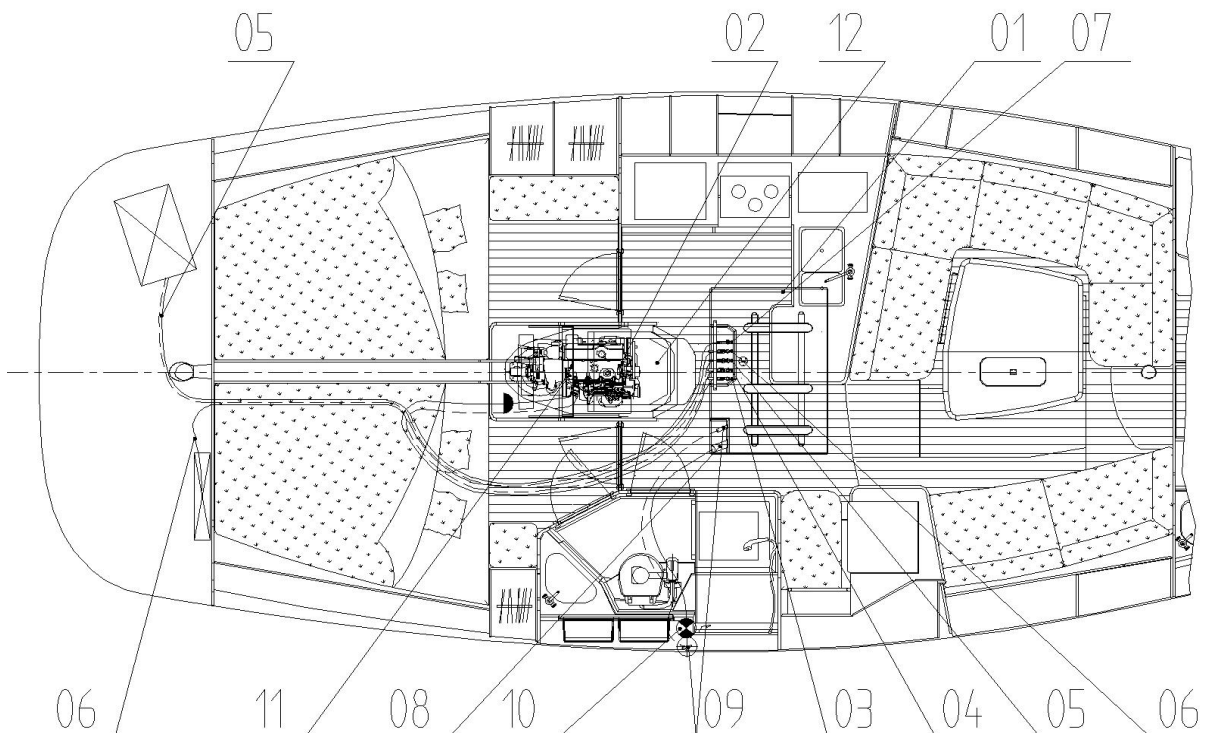

Figure 9
The fuel required for engine operation is stored in a fuel tank. The fuel tank has a capacity of 230 liters. The fuel tank is stowed under the galley floor (see Fig. 9). Fuel tank is accessed from the saloon by lifting the floor panels.
- Fill the fuel tank with diesel via the deck filler. The position of the deck filler is shown in Fig.9